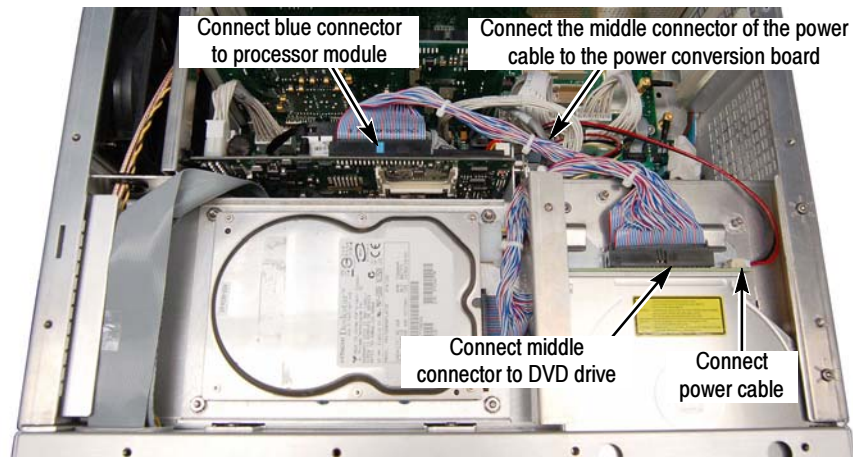

Figure 20: Connecting IDE cable and power cable to the DVD-R/W drive
17. Connect the blue connector on the IDE Cable to the processor module. Connect the middle connector of the IDE Cable to the DVD-R/W drive. Connect middle connector of the power cable to J6 on the Power Conversion board and connect the small connector of the power cable to the DVD-R/W drive. See Figure 20.